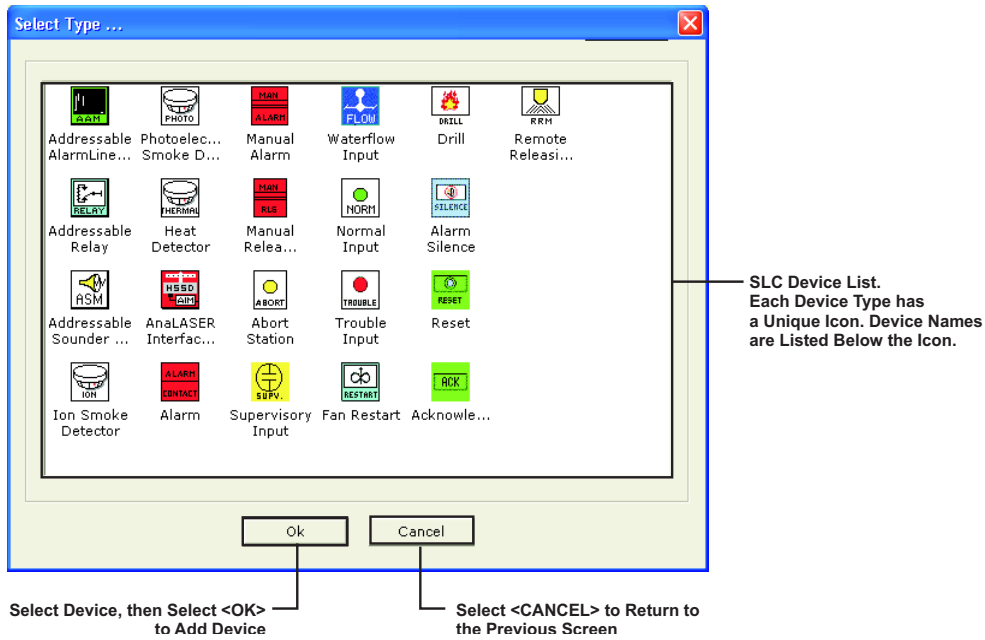

Figure 2-5. SLC Device List
3. Enter the starting and ending device address(es), then select <OK>. Figure 2-5 displays showing the list of SLC devices.